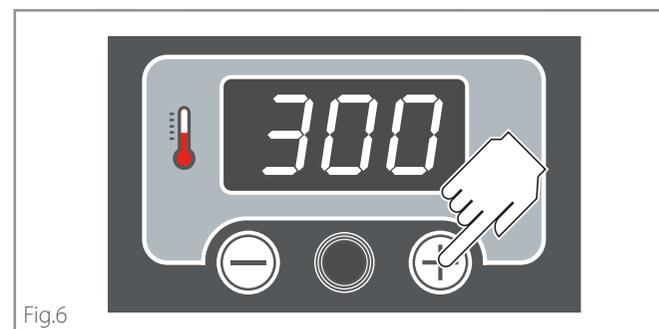
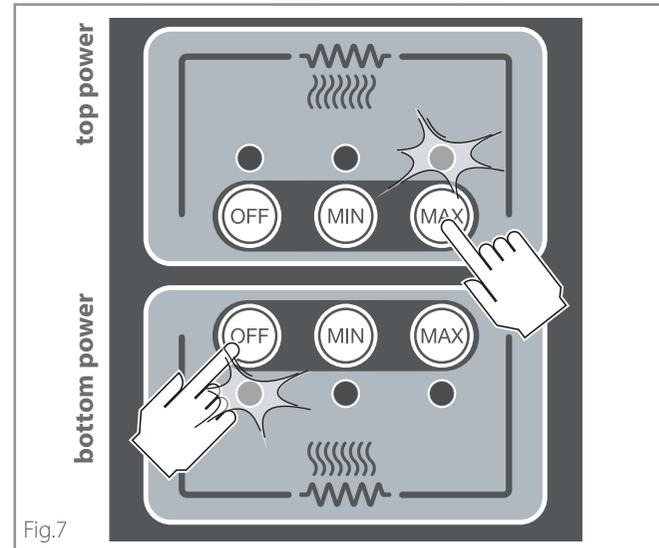

Fig.6
Fig.7
► **Fig.6**
► **Fig.7**
- Set a cooking cycle with the desired parameters (► Fig.6 - Fig.7).